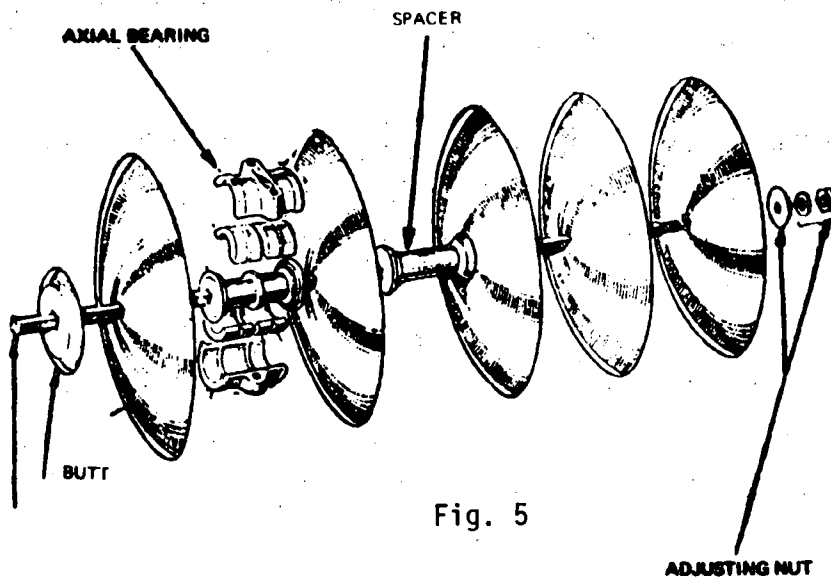
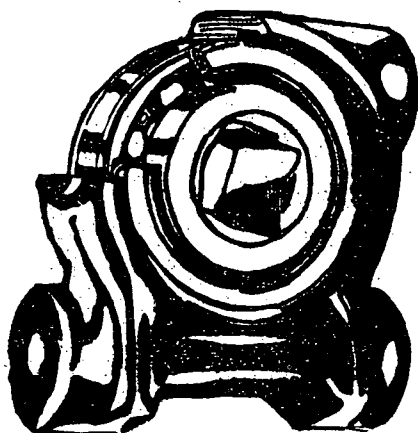

Fig. 5
Fig. 7
*Bearings.* The set of discs and the spacers mounted on the same axle and corresponding to one gang is fixed to the frame by means of bearings. These can be made of anti-friction metal, or of hard wood soaked in oil (see Fig. 5). These bearings can also have rolling elements which can be lubricated or are sealed as shown in Figure 7. The bearings can be mounted in various ways.